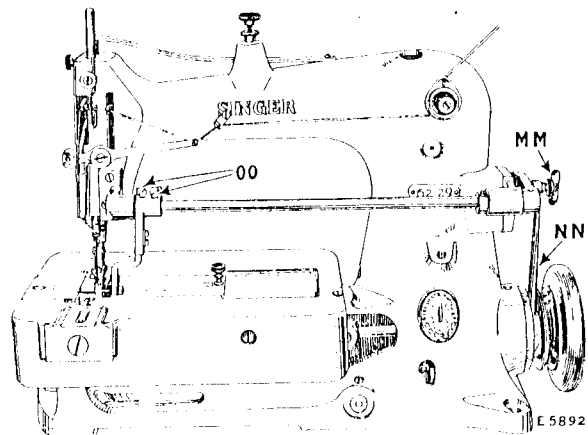

Fig. 10
The fullness of the ruffles is regulated by the connecting rod (NN, Fig. 10) which controls the movement of the ruffling blade.
To make a fuller ruffle, loosen the thumb screw (MM, Fig. 10) and move the upper end of the connecting rod (NN) toward you in the slotted regulator. To make a scant ruffle, move the connecting rod (NN) away from you. When the desired fullness of ruffle is obtained, firmly tighten the thumb screw (MM).
The ruffling blade should be adjusted so that it moves forward as far as possible without striking the needle. It should also be positioned sidewise so that its slot straddles the needle centrally. The ruffling blade can be adjusted to the required position after loosening the two screws (OO, Fig. 10).